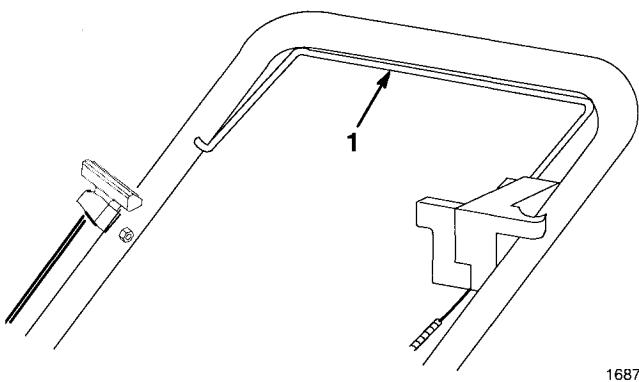

Figure 15
4. Slowly squeeze control bar against handle to engage traction mechanism (Fig. 15).